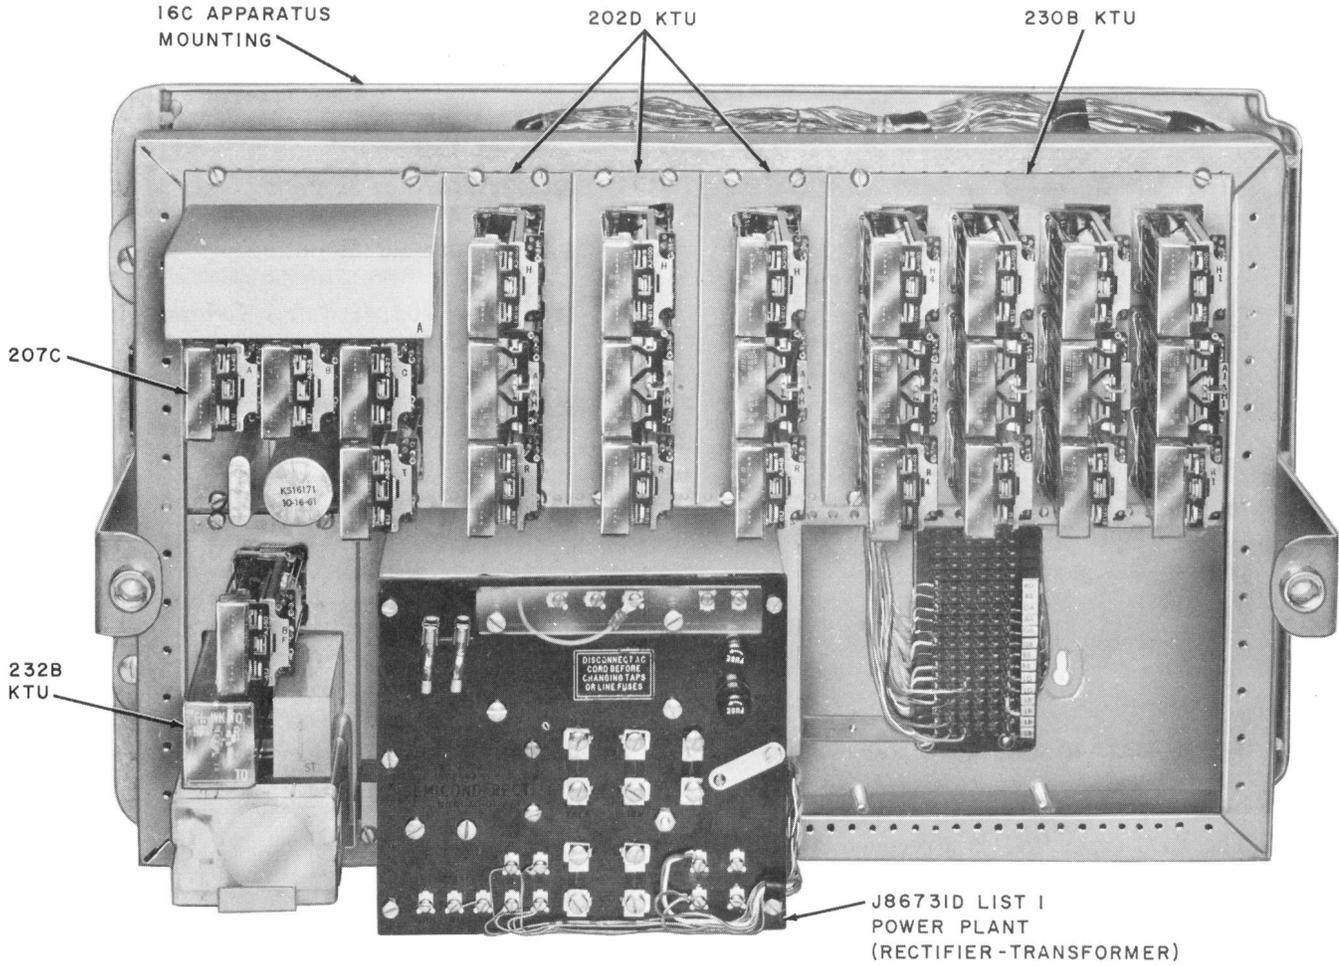
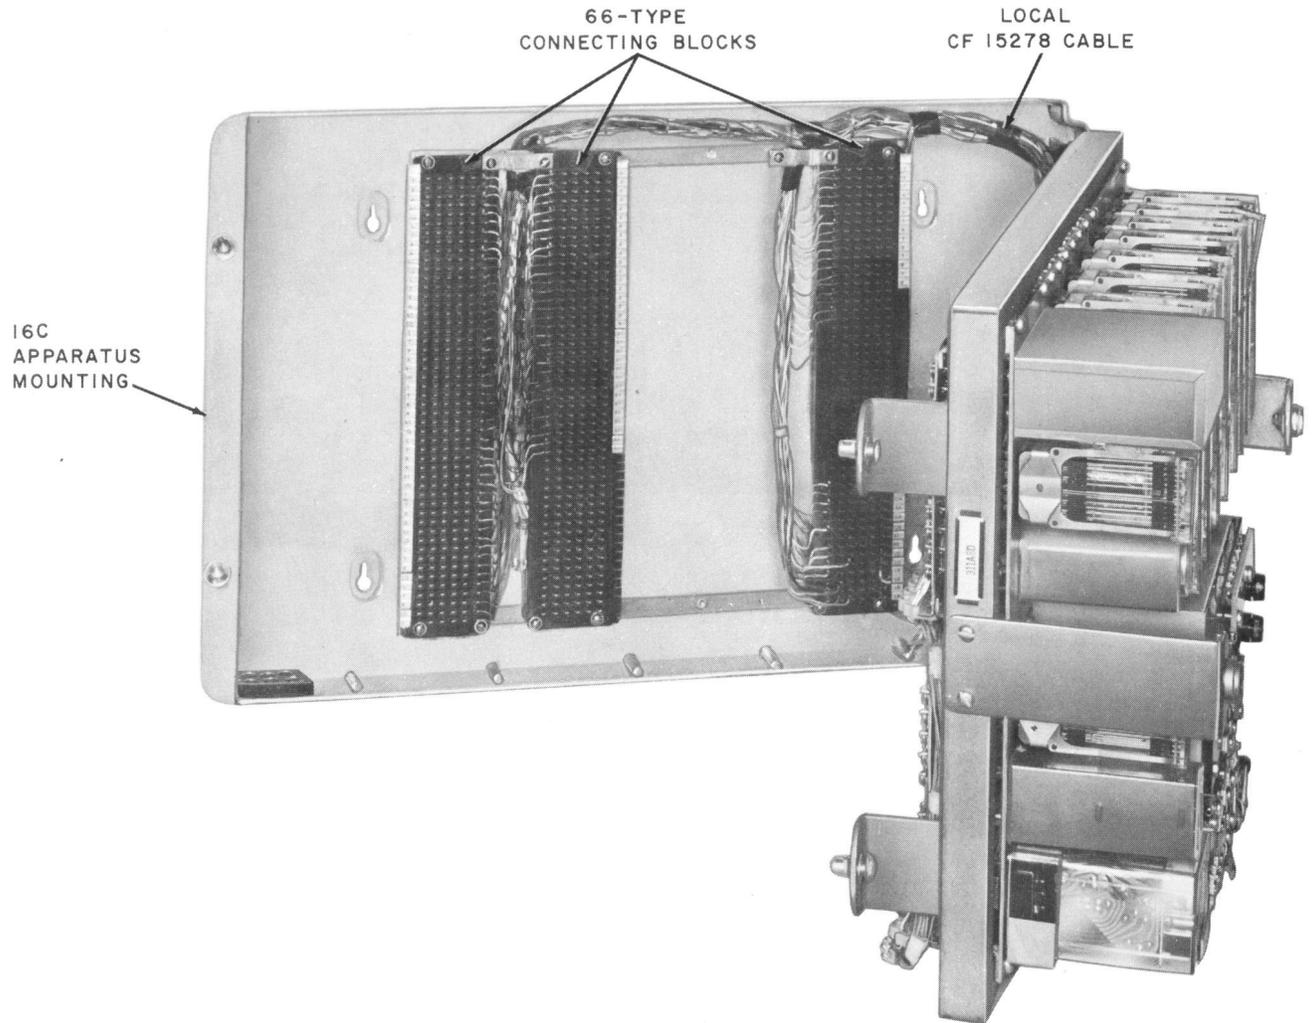

Fig. 5—311A8D KSU, Gate Closed
Fig. 6—311A8D KSU, Gate Open
2.16 Fig. 5 shows the 311A8D KSU with the gate closed and Fig. 6 shows the 311A8D KSU with the 66-type connecting blocks.